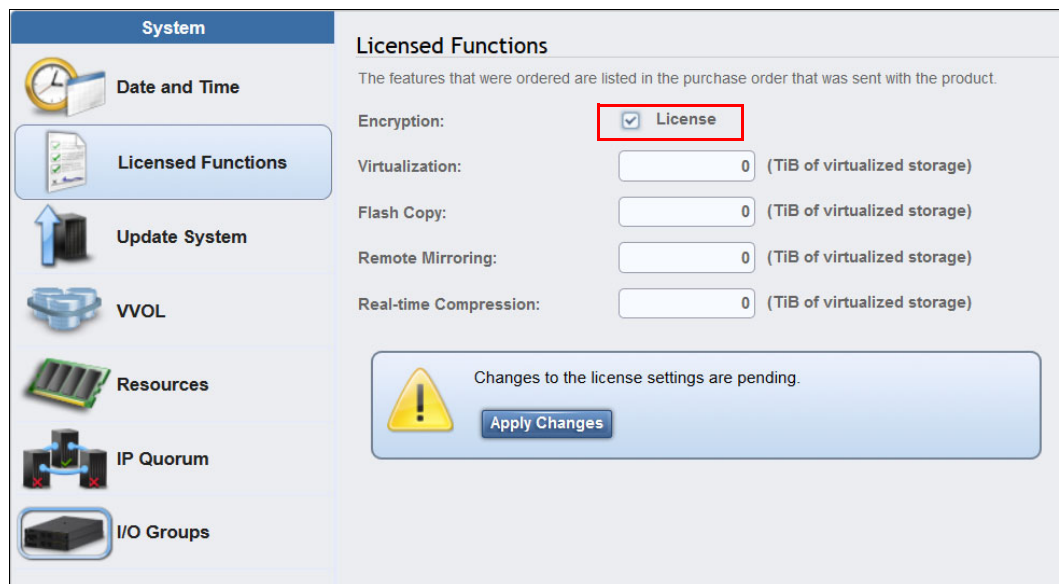

Figure 9-56 Activate the encryption license
2. In the Licensed Functions panel (Figure 9-56), select the **License** check box to activate the encryption license, and click **Apply Changes**.